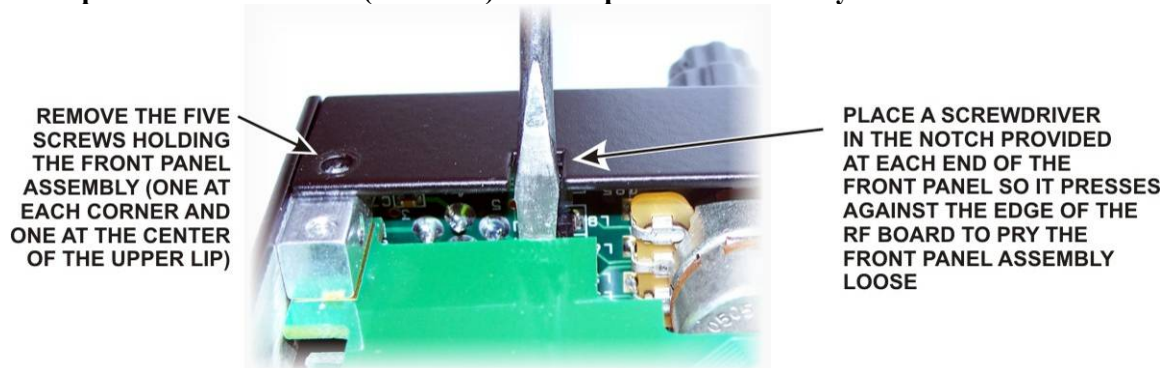

Figure 53. Removing the Front Panel.
**⚠ REMOVING THE FRONT PANEL:** If you ever need to remove the front panel assembly, remove the five screws holding it to the chassis (three on the top lip and two on the bottom), and with the K3S upside down and use a screwdriver in the two pry slots provided as shown in Figure 53. Do not insert the screwdriver deep enough to strike components on the boards! Pry each end in short increments until the connectors separate. Either a blade (as shown) or Phillips screwdriver may be used.